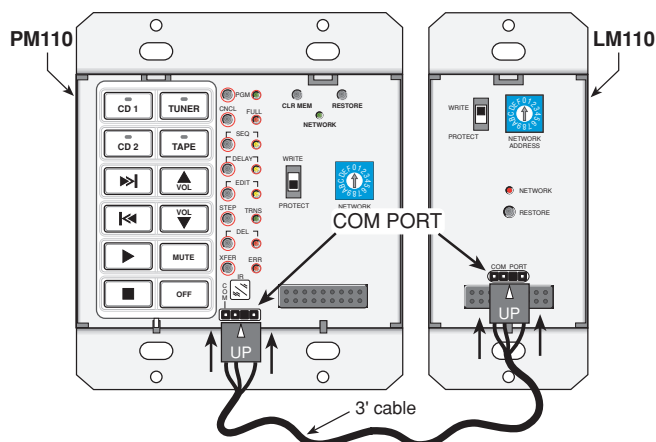

Fig. 8 PM110 to LM110 Program Transfer
1. Using the 3' cable supplied with the PM110, simply plug it into the **COM** Port of each unit as shown in **Fig. 8**.